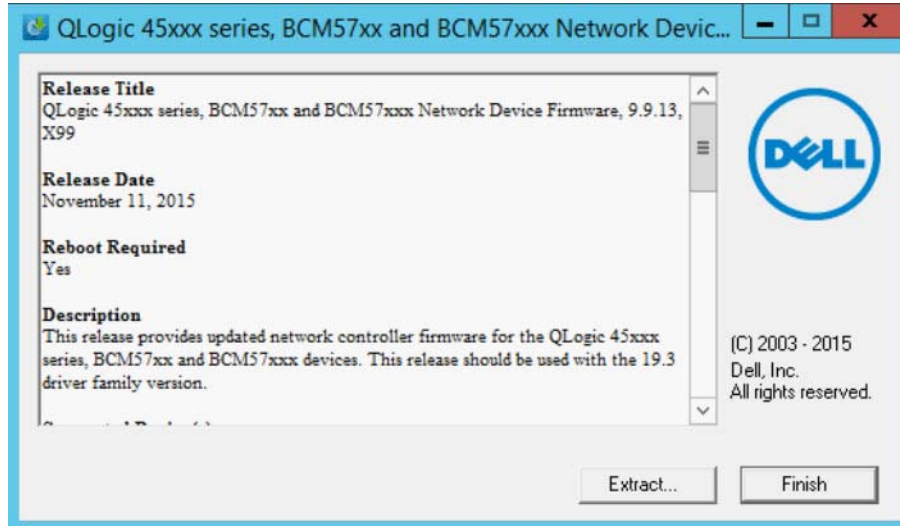

Figure 4-5. Dell Update Package: Finish Installation
4. Click **Finish** to complete the installation, as shown in Figure 4-5.